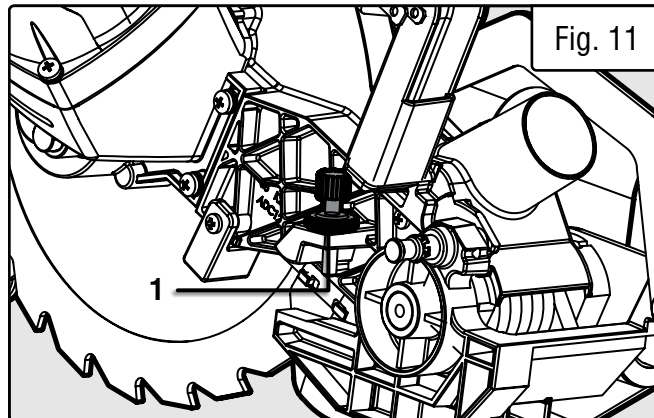

Fig. 11
2. Locate the depth stop settings on the right side of the saw (Fig. 11).
4. Loosen the depth stop knob (Fig. 11 - 1). **To increase depth**, turn the depth stop knob counterclockwise. **To decrease depth**, turn the depth stop knob clockwise.
⚠ WARNING: DO NOT adjust the depth stop screw. Only adjust the depth stop knob (Fig. 11 - 1). The depth stop screw is used to prevent the blade from cutting the table during normal cutting. DO NOT adjust the depth stop screw.